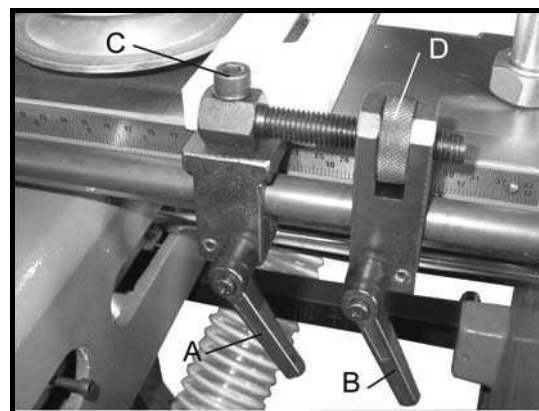

Figure 17
The 40-050 Dovetailer comes standard with three fixed chasers at 2", 2-1/2" and 3" pitches. (Pitch is the distance between the centers of the "fingers" see Figure 17).
1. To replace the fixed chaser, remove the three M6 socket head cap screws and flat washers, using a 5mm hex wrench as shown in Figure 17. Remove the fixed chaser.
2. For broad movement of the horizontal fence, loosen both locking handles on the horizontal fence (A and B, Figure 17) and slide the horizontal fence into position. Tighten both locking handles (A & B, Figure 17).
3. There is also a micro adjustment on the horizontal fence; loosen locking handle (A, Figure 17), but leave locking handle (B) tight. Loosen the screw rotate the knurled knob (D, Figure 17) as needed for precise positioning of the horizontal fence.
4. When finished, locking handle (A, Figure 17).
NOTE: Make sure locking handles (A & B, Figure 17) will not interfere with the headstock during operation.
6. Again, make sure the locking handles on the horizontal fence (A & B, Figure 17) are tightened. The position of the horizontal fence will now be used as the basis for locating the vertical fence.